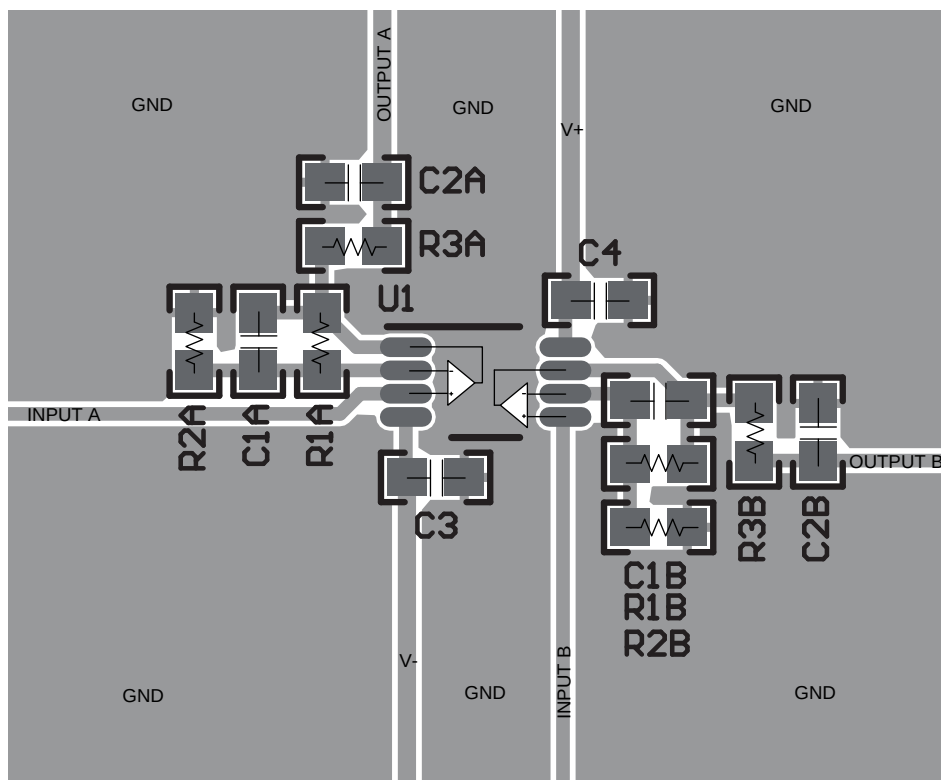

FIG 30. Layout Example
- Place the external components as close to the device as possible. As illustrated in Figure 30, keeping RF and RG close to the inverting input minimizes parasitic capacitance on the inverting input.